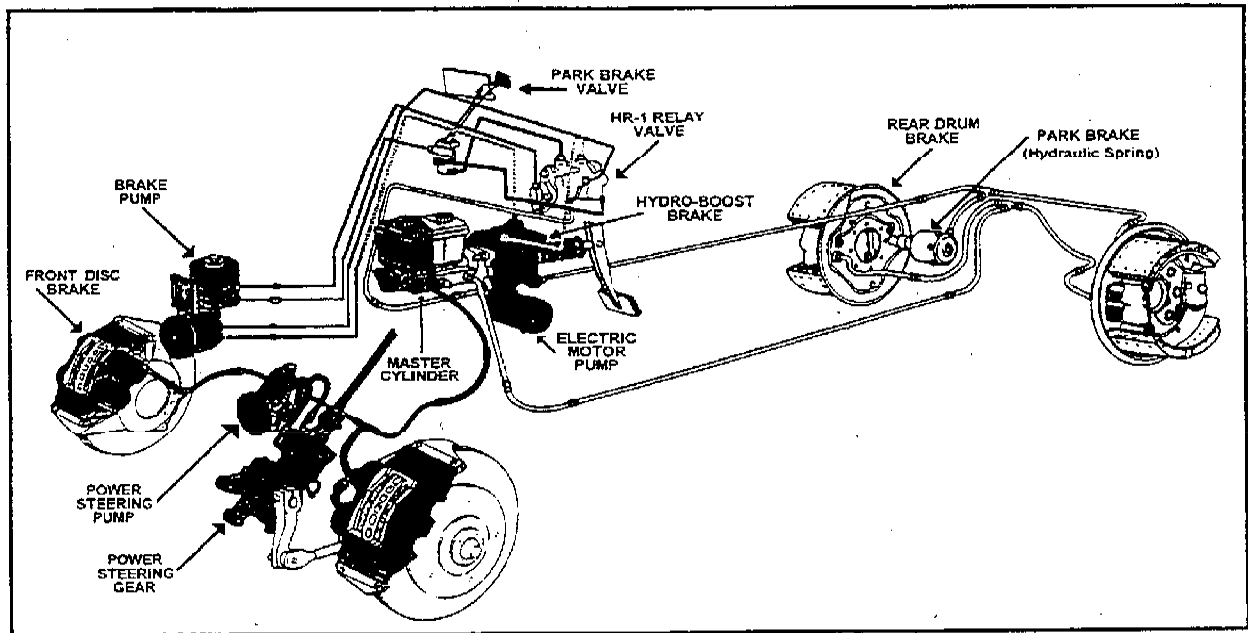

Fig. 7-5. Typical Brake Pump System For Medium Duty Vehicle
(2) Figure 7-5 illustrates a typical medium duty vehicle with separate pumps for steering and brake systems.